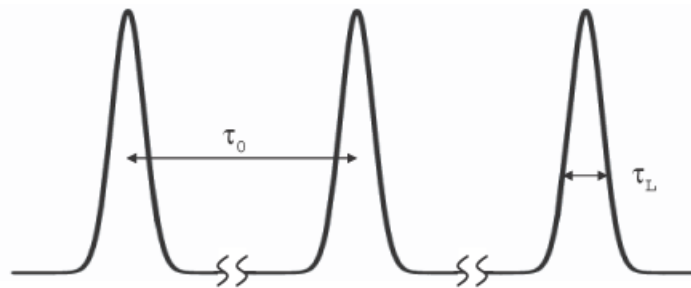
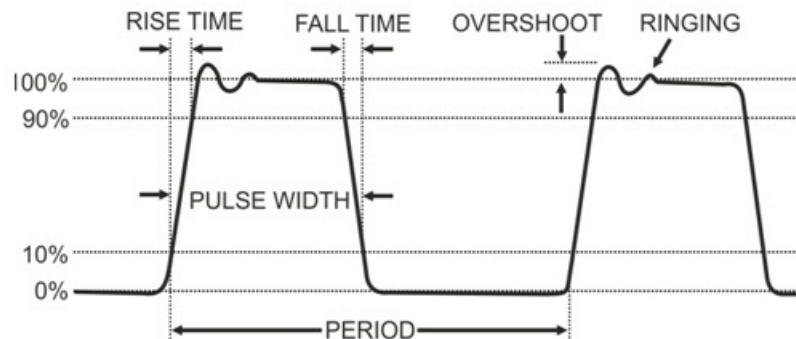

Figure 1: Pulses emitted by a pulsed laser.
Figure 3: Pulse train emitted from a modulated laser.
A pulsed laser is a system which will emit light in the form of optical pulses, rather than a continuous wave (CW). There are numerous methods to achieve laser pulsing, but the end result follows the same principles. A pulsed laser periodically emits pulses of energy in an ultra-short time duration. These periodic pulses, or pulse train, can be seen in Figure 1. The duration, or pulse width (τ_L) for laser diodes can range from 10's of nanoseconds (10^{-9} seconds) to 10's of picoseconds (10^{-12} seconds). There are several things to consider with the properties and characteristics of pulsed lasers, such as peak power, average power, pulse width, and pulse energy.
To get a better understanding of the pulses emitted from these lasers we can refer to Figure 1. Here we have a pulse train with a period τ_0 , and a pulse width (or time duration) τ_L ¹. One of the important aspects of these pulses is how much power is delivered with each pulse. This is what is referred to as peak power P_{peak} , which is the maximum amount of power a pulse delivers. Generally, power is defined as the amount of energy with respect to the time it takes to release the energy. We can define peak power as
A modulated diode laser is a CW laser system in which its output power can be manipulated in accordance to an input signal triggering it. One of the most common application for a modulated diode laser is to input a periodic analog or digital signal, such that it will be modulated between an "on" state and "off" state, as seen in Figure 3. Because the pulse train in Figure 3 has similar qualities as in Figure 1, there is a common misconception that a modulated laser is the same as a pulsed laser. This is not the case. In this particular application the main difference between the modulated laser and pulsed laser is the modulated laser is simply turning on and off periodically. Whereas, a pulsed laser will release burst of energy periodically. The modulated laser will only turn on to a set maximum output power, regardless how quickly or slowly the laser is modulating between the on and off states. We will discuss in the later sections the unique features the modulated diode laser can offer, in regards to pulse shaping.
In this section we will discuss the properties of the modulated diode laser, and get a better contrast from the pulsed laser systems. Comparing Figure 3 to Figure 1, we see that there are distinct differences between the pulse trains. Although the period and pulse width can be measured in the exact same way as you would for a pulsed laser, the overshoot, ringing, rise time, and fall time are other factors that must be considered.